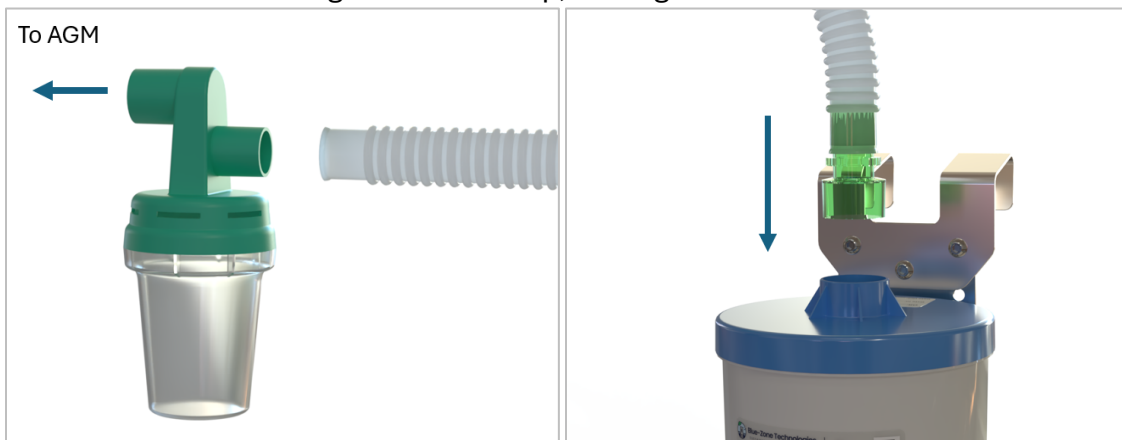

Figure 9.
- 22mm hose with integrated water trap, see figure 9